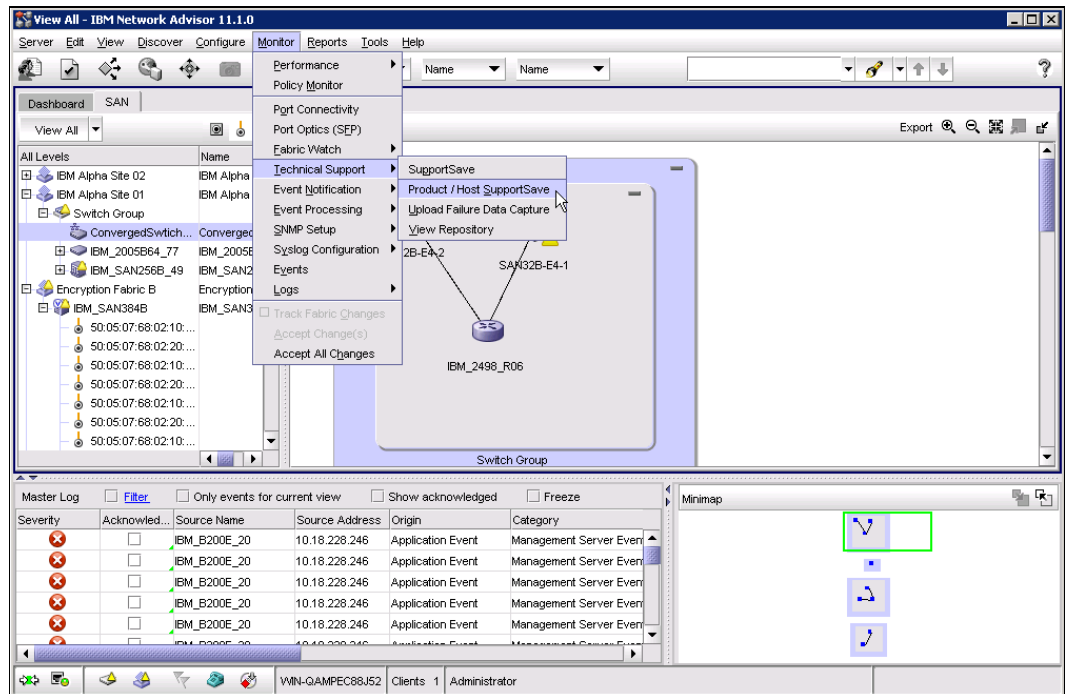

Figure 15-5 Product/Host SupportSave
1. Select **Monitor**  **Technical Support**  **Product/Host SupportSave**, as shown in Figure 15-5 on page 533.